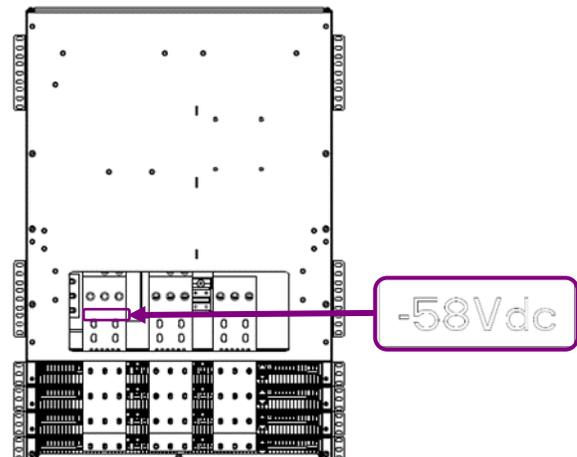

Figure 4b. Applying label B
3. Paste the Label-B (8600481039P, -58V_{DC}) on the vertical busbar as shown in figure 4b.